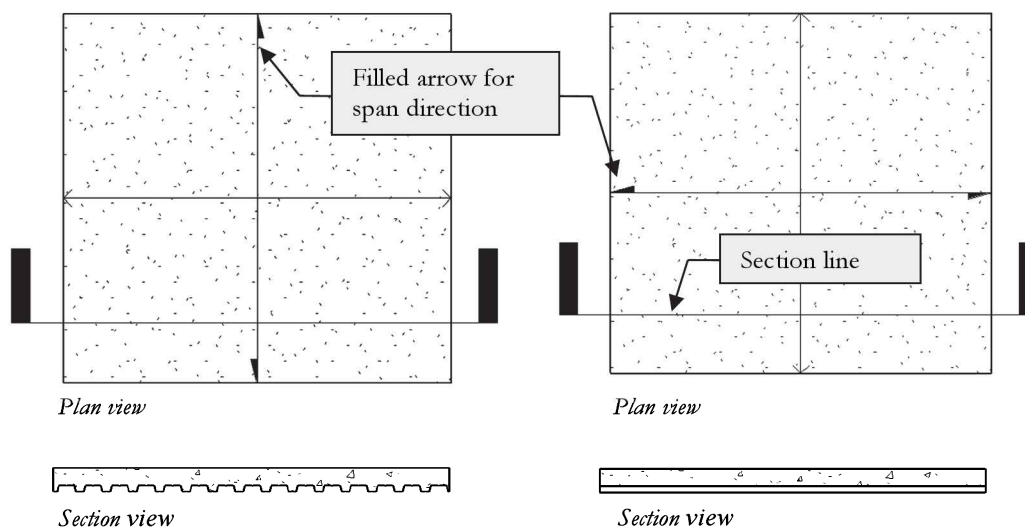

FIGURE 8-4.4 Span direction results
18. Ensure that the filled arrows are on the left and right, as in the example on the right in Figure 8-4.4. If not, select the symbol and use the *Rotate* tool to rotate it 90 degrees.